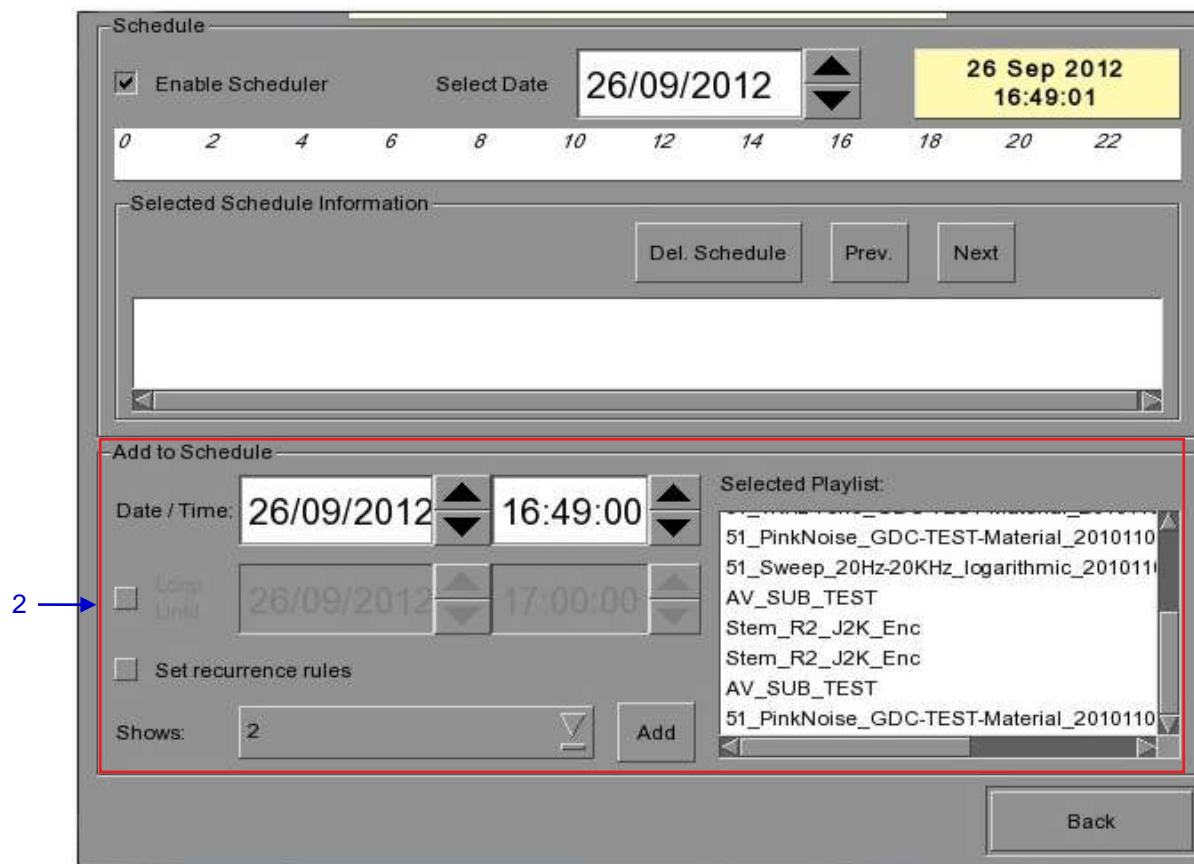

Figure 34 Scheduler menu.
- 1 On the Main menu, press **Scheduler**. A new window opens as seen in **Figure 34**.